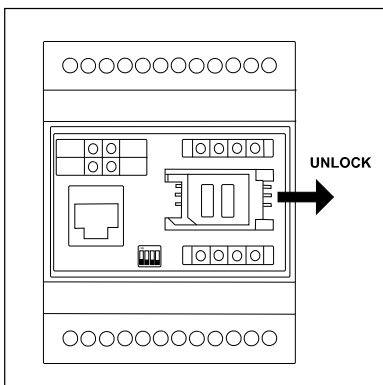

Figure 7.1.2
- Slide the SIM card holder toward its hinge to unlock it (see the *figure 7.1.2*).